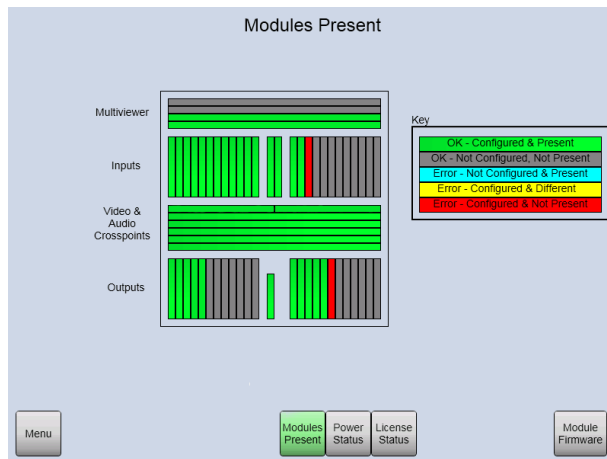

Figure 36 Sirius 840 Module Status shown as an Example
1. Check the Door PC “Modules Present” screen and note the color of each of the module slots that are to be expanded (see Table 16 & Figure 36):
16. Check Live Runner on the Door PC and verify that the newly installed modules are all Green (OK - Configured & Present, see Figure 36).